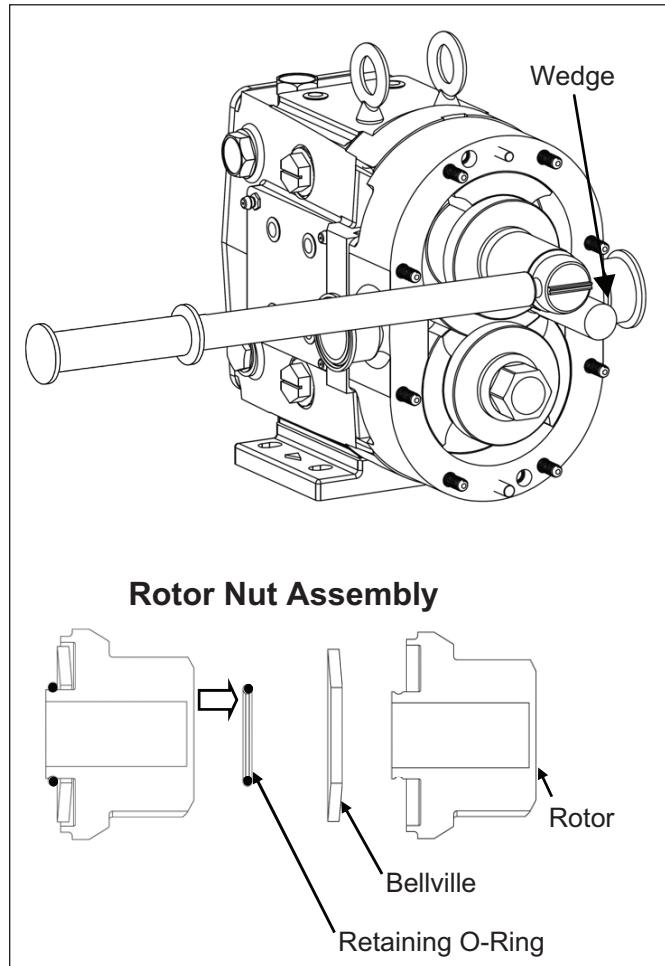

Figure 24. Rotor Removal
2. Remove the rotor nut assembly using the appropriate size wrench and a non-metallic wedge to keep the rotors from moving (*Figure 24*). Unthread each nut and disassemble the nut assembly (rotor nut, Bellville washer, and retaining o-rings).